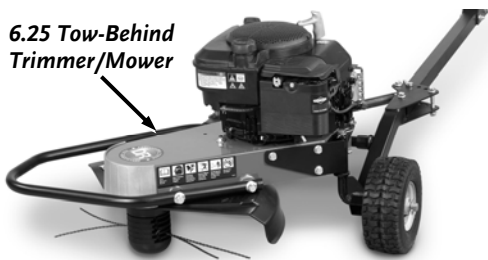
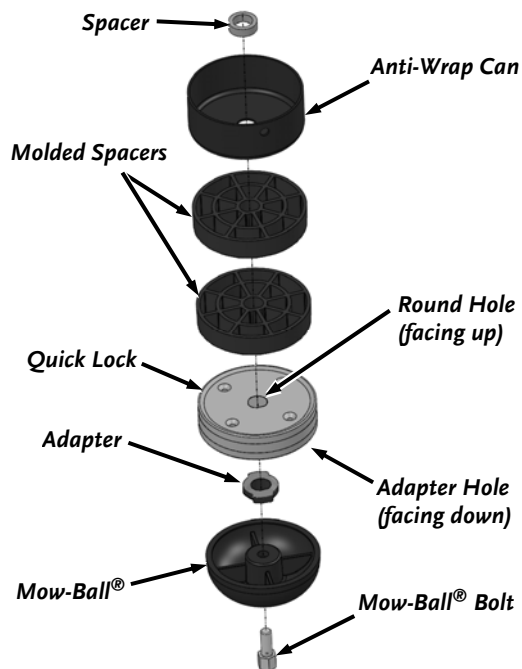

Figure 3
Figure 4. (6.25 Tow-Behind Model Only)
**Note:** The 6.25 Tow-Behind Trimmer/Mower Head rotates in the opposite direction than our other Trimmers (Figure 3). For the 6.25 Tow-Behind Trimmer/Mower only, the Quick Lock must be mounted with the Adapter Hole and Adapter on the bottom side facing the ground (Figure 4).
**6.25 Tow-Behind Model Only** - Install the two Molded Spacers, Quick Lock with Adapter hole and Adapter on bottom of Quick Lock onto the Shaft (Figure 4).
**Note:** The 6.25 Tow-Behind Trimmer/Mower (**Figure 3**) Cords will be installed from left to right instead of from right to left as shown in these steps.